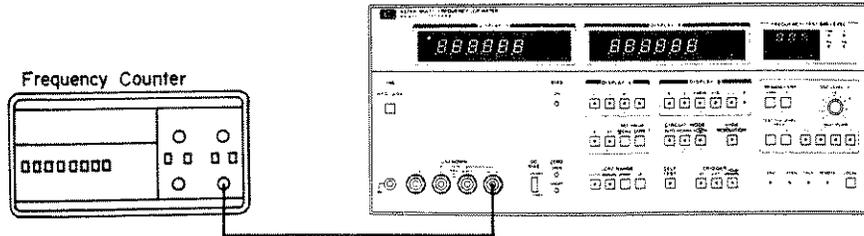

Figure 4-1. Test Frequency Accuracy Test Setup.
1. Connect BNC to BNC cable to 4274A UNKNOWN HCUR terminal and to frequency counter input as shown in Figure 4-1.